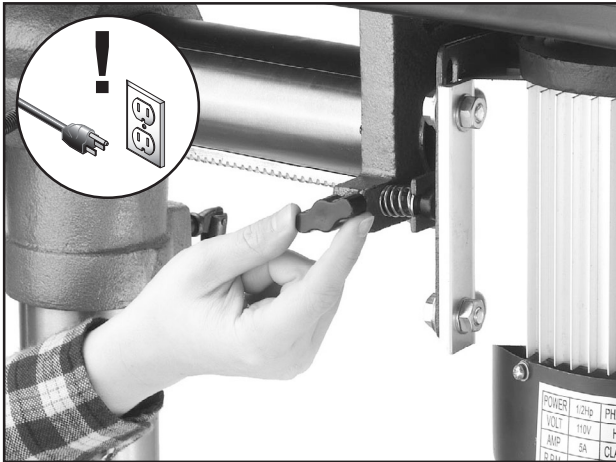

Figure 21. Loosening lock knob (both sides).
2. Loosen the belt tension lock knobs (shown in **Figure 21**) on both sides of the headstock, so the motor is free to move.